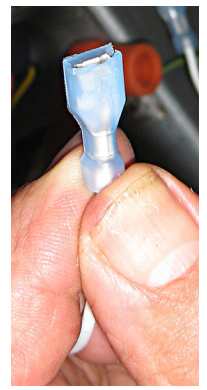

Figure 9
13. Terminalize the white sense wire with the supplied  $\frac{3}{16}$ " male terminal (see Figure 9).